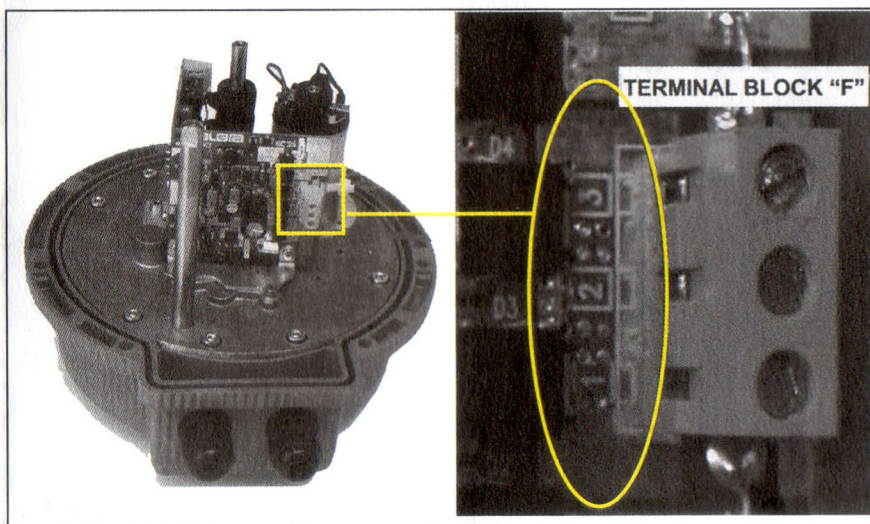

Fig.2 Plate for supply low tension and particular of terminal-block "F"
4.2 Electrical connection for models supplied with 12-24V AC/DC (fig. 2 and 4)